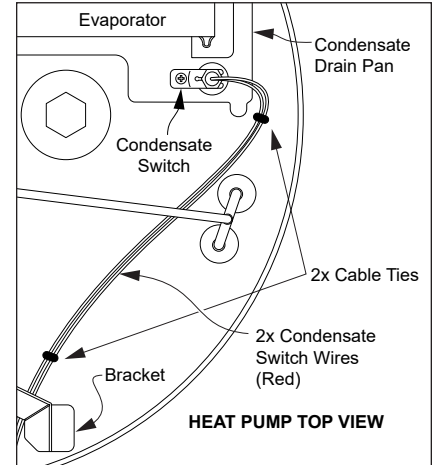

Figure 61 - Locating Condensate Drain Switch
- 7 Locate condensate switch assembly (see Figure 61).
14 Run the new condensate wires under the bracket (see Figure 61) and reconnect them to the J1 terminal on the control board.
15 Locate the new cable ties provided in the kit and secure the condensate wires such that they will not interfere with other components in the heat pump compartment (see Figure 61 as reference).